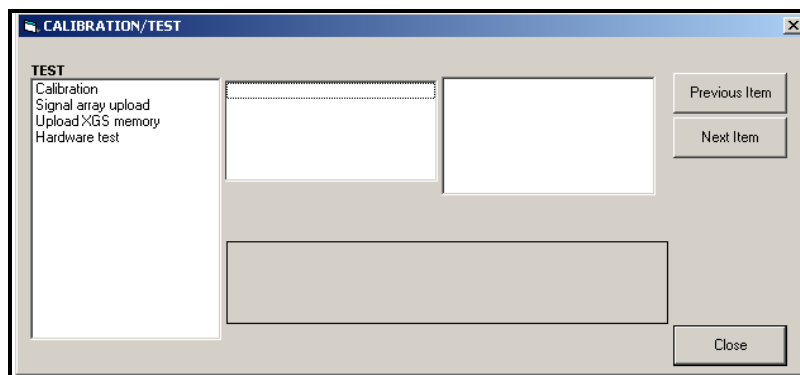

Figure 10: The *Calibration/Test* Menu
5. To enter data into the user program, double-click on the *Calibration/Test* menu. The window appears similar to Figure 10.
1. From the *Calibration/Test* menu (see Figure 10 on page 40), double-click on the *Calibration* entry to open the option.
To calibrate any option card installed in Slot 1 of the XGS868i, enter the *Calibration/Test* menu as shown in Figure 10 on page 40.